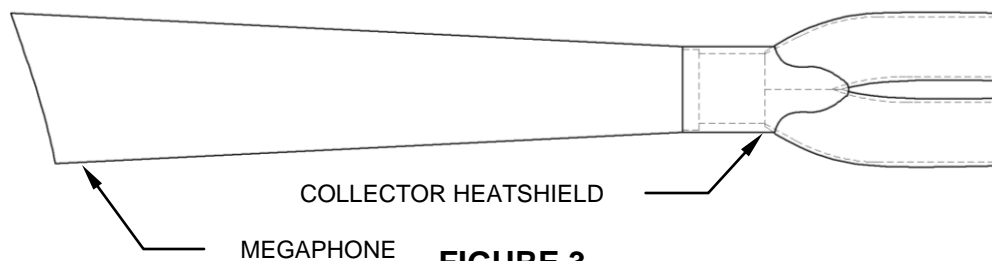

FIGURE 3
16. Place the heatshields on the headpipes and align at collector. **DO NOT TIGHTEN** at this time. Feed the tail end of the #28 hose clamp thru the collector heat shield and snap into place over the megaphone and heatshields, see Figure 3. Tighten all clamps.